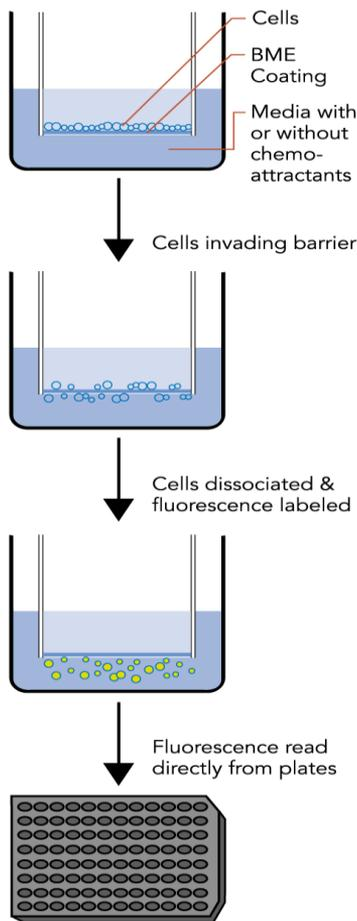

Figure 1. Illustration of protocol for Trevigen's CultreCoat® 96 Well BME Cell Invasion Assays.
Cell invasion is fundamental to angiogenesis¹, embryonic development², immune responses³, and tumor cell metastasis⁴. Trevigen's **CultreCoat® 96 Well Cell Invasion Assays** were created in an effort to accelerate *in vitro* screening for modulators of these processes, and to further enable the investigation of pathways that influence cell invasion through extracellular matrices (Figure 1). These assays offer three distinct, standardized, high throughput formats for quantitating the degree to which invasive cells penetrate a barrier consisting of basement membrane components, in response to chemoattractants and/or inhibiting compounds. Basement membranes are continuous sheets of specialized extracellular matrix that form an interface between endothelial, epithelial, muscle, or neuronal cells and their adjacent stroma. Basement membranes are degraded and regenerated during development and wound repair. They not only support cells and cell layers, but they also play an essential role in tissue organization that affects cell adhesion, migration, proliferation, and differentiation. Basement membranes provide major barriers to invasion by metastatic tumor cells.
8. Plot standard curve RFU values vs. number of cells (see Fig. 1).